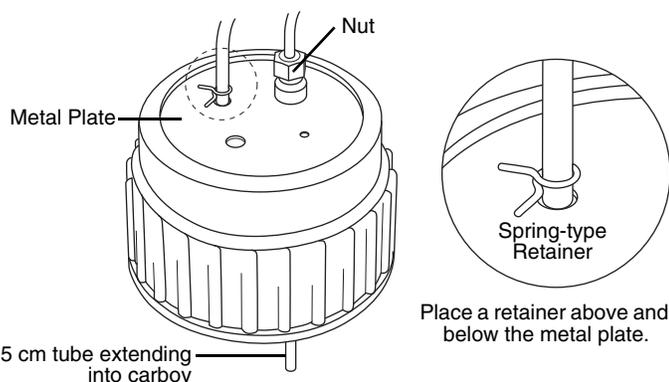

Figure 2-2 Optional Waste Cap (83B cap shown)
3. Place the metal plate inside the plastic cap (Figure 2-2). The plate should be oriented so that the small tube will extend into the carboy. The small tube should extend 5 ± 0.5 cm long from nut. If the tube is missing, insert it now and finger-tighten the nut.